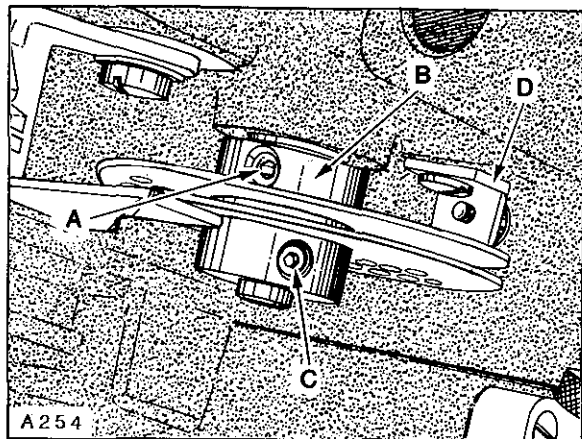

Fig.22
If adjustment is required, lift cast-off plate up. Loosen screw (A, Fig. 22) in positioning collar (B) and two screws (C) in looper thread take-up. Advance or retard take-up as required. Tighten two screws (C) securely in take-up making sure it is centered in cast-off plate. Positioning collar (B), which has a slot in its face, must be aligned with two screws which secure the discs of take-up together while THRUSTING positioning collar forward against take-up. Remove the play between screw heads in take-up and slot in positioning